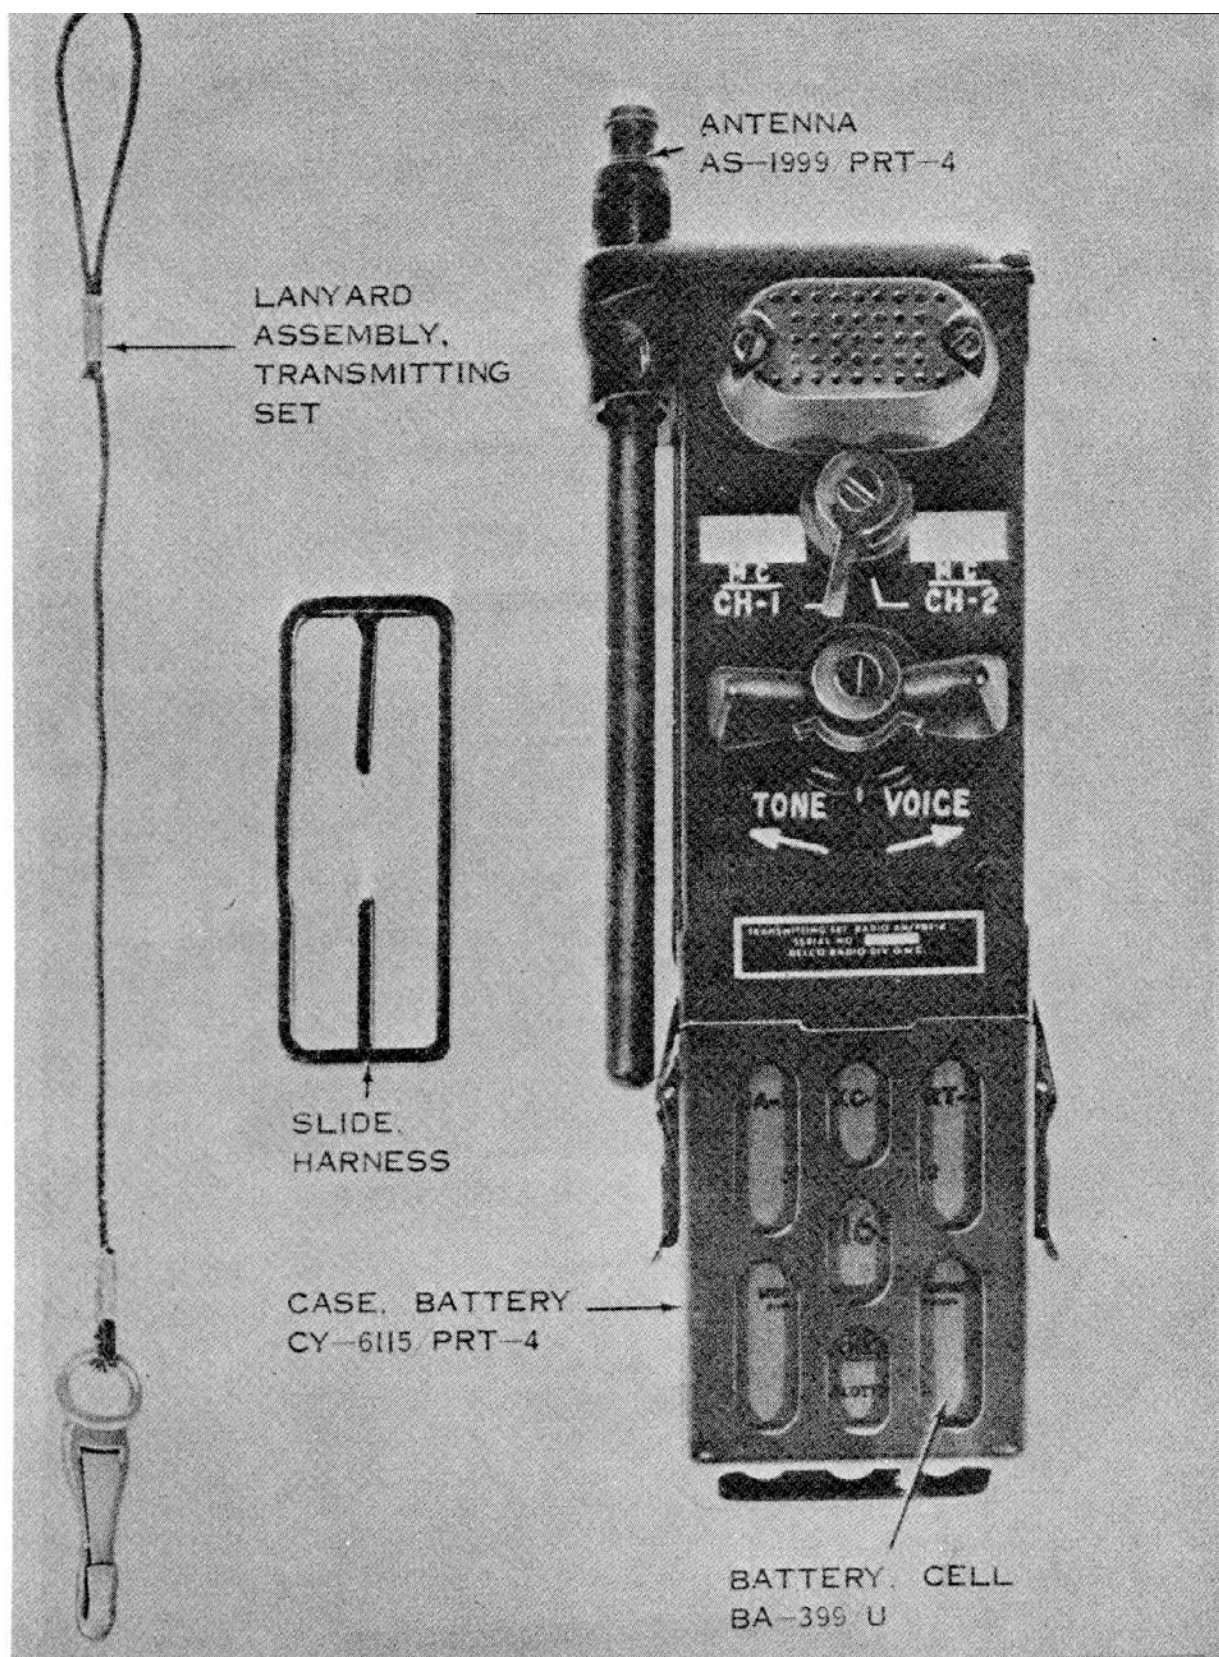

Figure 1-3. Transmitting Set, Radio AN, PRT-4, components.
(fig. 1-3)**
b. Battery, Dry BA-399/U (fig. 1-3) is not supplied as part of the transmitter but is required for its use. A four-conductor male connector in the bottom of the transmitter mates with a connector in the battery. The BA-399/U consists of two 7 1/2-volt sections.